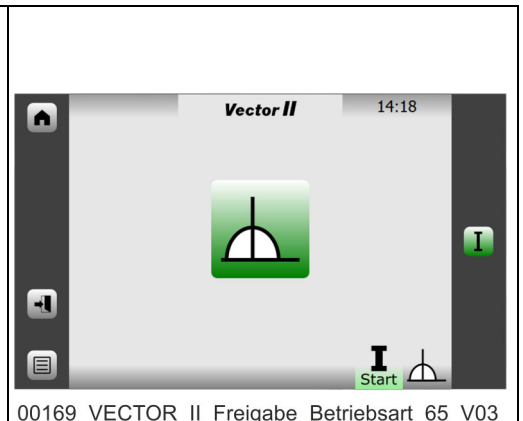

Fig. 107 Release prompt
7. The release prompt (**Fig. 107**) appears and prompts the release by flashing “Start”.